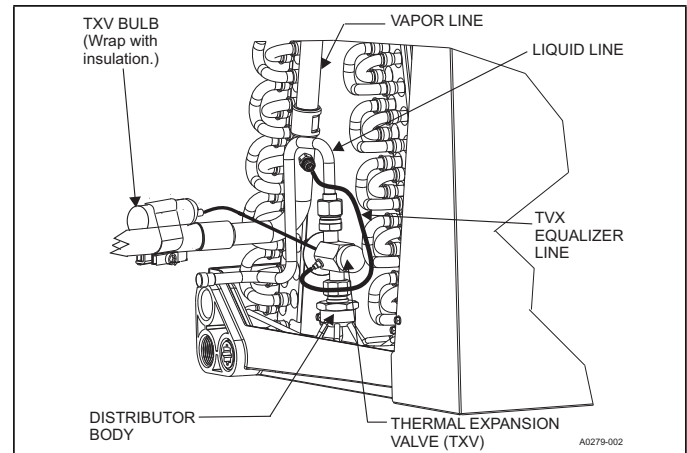

FIGURE 25: TXV Bulb and Equalizer line Installations
6. Install the TXV equalizer line onto the vapor line by hand tightening the 1/4" SAE coupling nut to the equalizer fitting, and apply an additional 1/3 turn to seal. See Figure 25.
8. Install the TXV bulb to the vapor line near the cabinet, using the bulb clamp(s) furnished with the TXV assembly. Ensure the bulb is making maximum contact. See Figures 25 and 26, and accomplish the following: